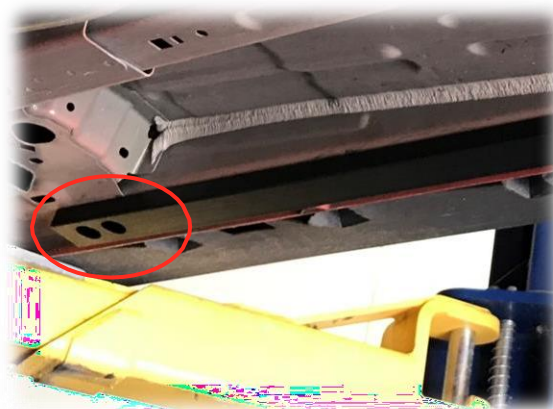

Figure 2: Steeda jacking rail installed
3. Align the Steeda jacking rail so that the 2 closer holes are facing the front of the vehicle as shown in Figure 2.
3. Before panel removal, place Steeda jacking rail up to rocker panel. Using grease pencil or crayon mark splash panel for trimming. See Figure 2 & 3.